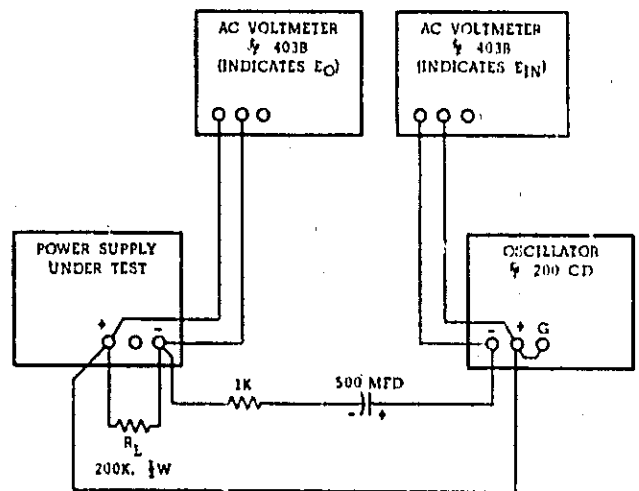

Figure 5-5. Output Impedance, Test Setup
a. Connect the test setup as shown in Figure 5-5. The best method of connecting the load resistor, oscillator, and AC voltmeter to the power supply is with two tee connectors on each power supply terminal. Clip lead connections can be used in lieu of the tee connectors providing that all connections are made directly to the power supply and lead lengths are short.